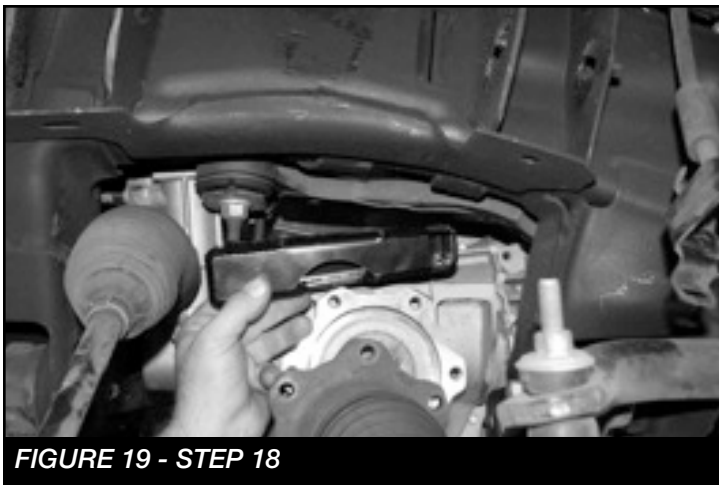

FIGURE 19 - STEP 18
18. Locate the FT20625 driver side diff mount and the FT20626 passenger side diff mount. Starting on the driver side, remount the diff with two M12-1.75 x 70mm bolts. Torque to 100 ft-lbs **SEE FIGURE 19**